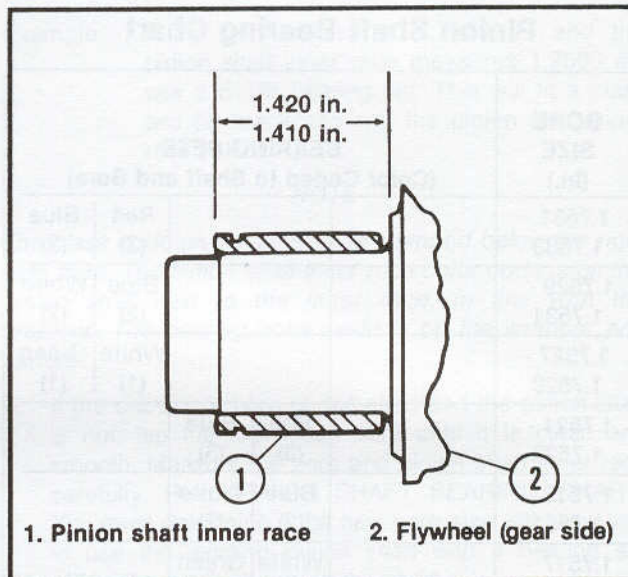
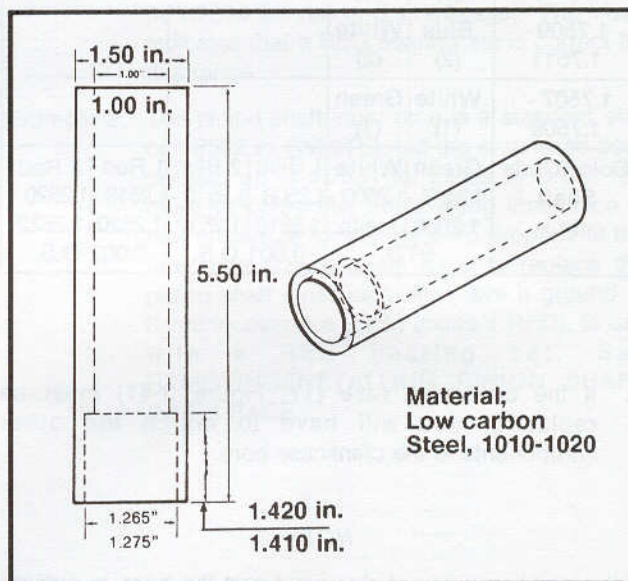

Figure 3-75. Inner Race Location
Figure 3-76. Inner Race Installation Tool
- See Figure 3-75. Press new race (1) on pinion shaft to the dimension shown. Figure 3-76 shows a fabricated installation tool that will locate the inner race properly when tool is "bottomed" on flywheel.